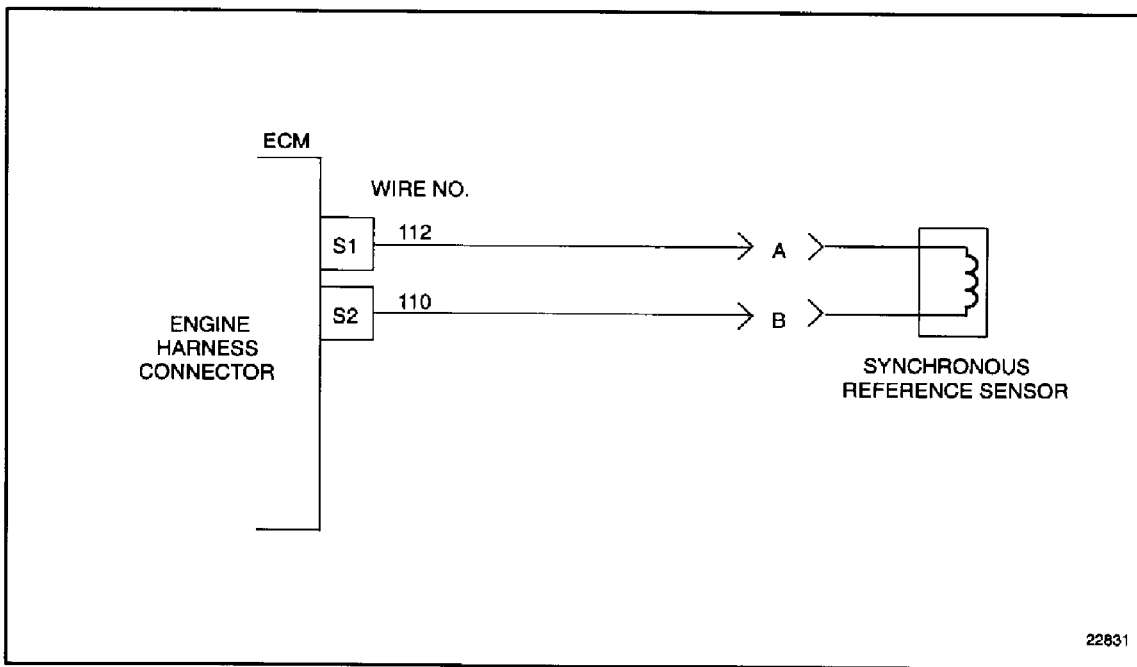

Figure 41-5 Engine Harness Connector to Synchronous Reference Sensor
1. Measure resistance between sockets S1 and S2 on the engine harness connector. See Figure 41-5.